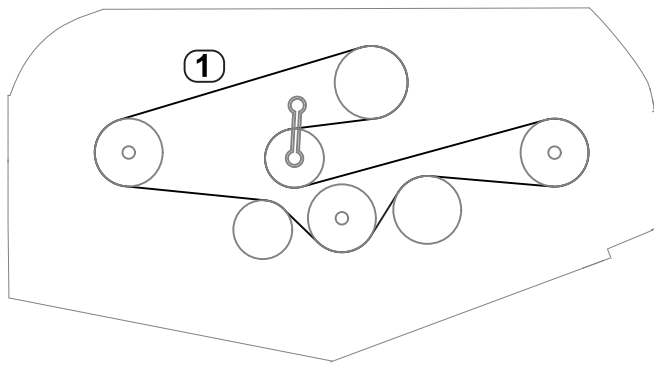

Figure 29
5. Using a torque wrench or similar tool to hold the idler pulley, route the new belt around the spindle pulleys and idler-pulley assembly as shown in Figure 29.